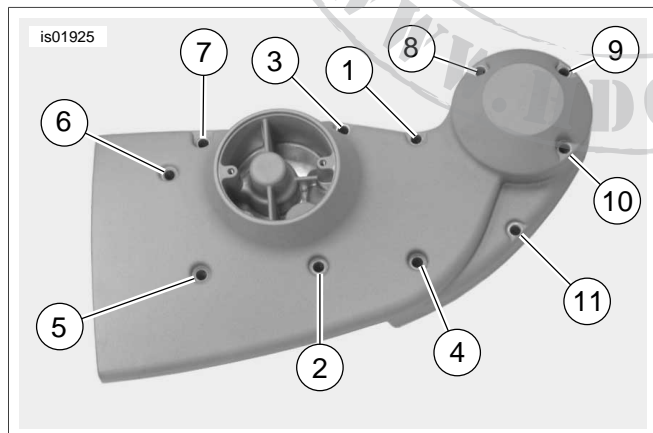
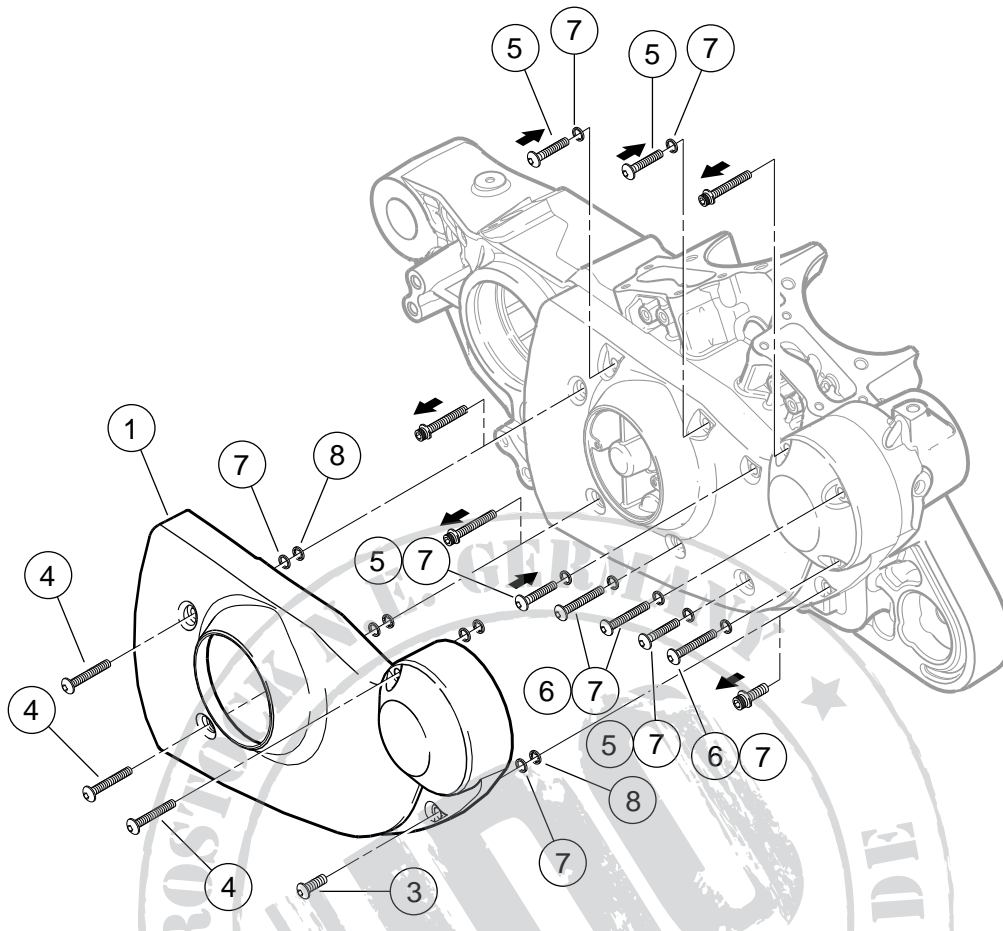

Figure 1. Gearcase Cover Mounting Screw Locations
Figure 2. Service Parts: Chrome Gearcase Trim Cover
See Figure 2 and Table 1.
1. See Figure 1 and Figure 2. ONE AT A TIME, replace the original socket-head cap screws in locations 1, 3, 4 and 7 on the gearcase with one of the shorter zinc-plated (silver) button head screws (5) and a steel spacer (7) from the kit. As each screw is replaced, tighten the screw to 80-100 **in-lbs** (9.0-12.4 Nm).